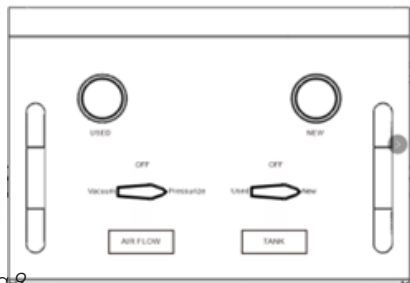

Fig.9
6. Arranque el motor y compruebe el nivel del anticongelante de nuevo. Si el nivel de anticongelante se descende, gire la valvula izquierda "AIR FLOW" en el panel a posicion "Pressurize", la valvula derecha "TANK" a la posicion "New" (Fig. 9), abra la valvula en la manguera de fluido nuevo(roja) (Fig.8), luego
4. Connect the conical adapter and direct it to the overflow tank. Turn the left valve on the "AIR FLOW" panel to the "Pressurize" position, the right valve "TANK" to the "New" position, open the valve on the new fluid hose (red), then open the workshop air valve to add new antifreeze to the vehicle through the overflow tank. As illustrated above in Fig.8 and Fig.9.
"AIR FLOW" valve on the panel to "Pressurize" position, the right "TANK" valve to "New" position (Fig.9), open the valve on the new fluid hose (red) (Fig.8), then open the workshop air valve to add more new antifreeze to the vehicle.
5. Start the engine and check the antifreeze level. If the antifreeze level drops, turn the left "AIR FLOW" valve on the panel to the "Pressurize" position, the right valve to the "New" position (Fig. 9), open the valve on the new (red) fluid hose (Fig.8), then open the workshop air valve to add more new antifreeze to the vehicle through the vehicle overflow tank.